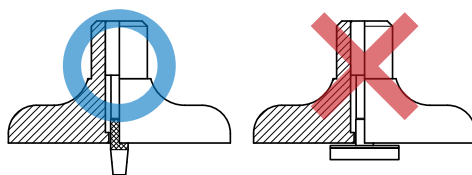

Fig. 2
5. Use a contact point with a diameter smaller than the diameter of the base hole. (**Fig. 2**)